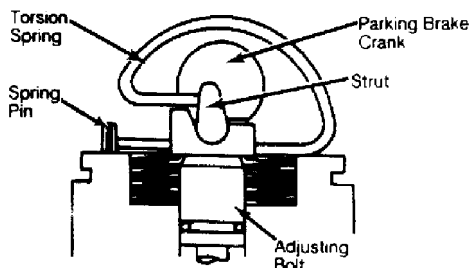

Fig. 5: Proper Installation of Conical Spring and Adjusting Bolt
4) Assemble conical spring and adjusting bolt. See Fig. 5. Install adjusting bolt assembly, strut and torsion spring in the caliper. Install piston using disc brake wrench, as described under Disc Brake Pad Installation.